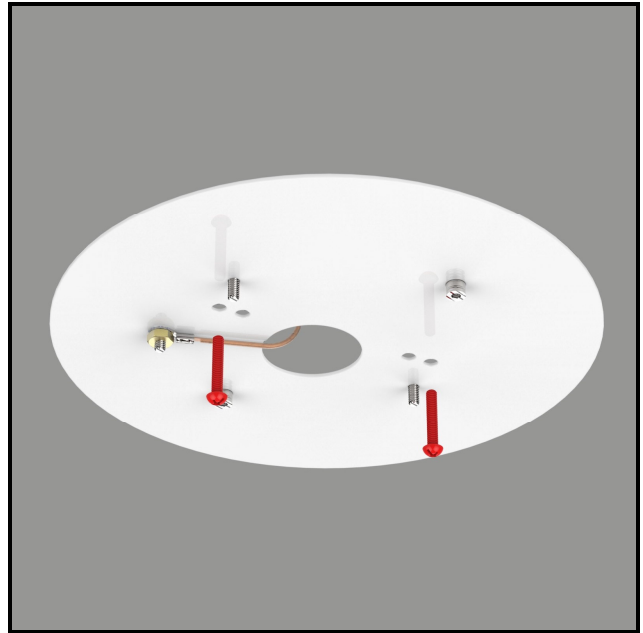

Figure 4
- Secure mounting disk directly to ceiling box with the 1" screws provided. (Figure 4)